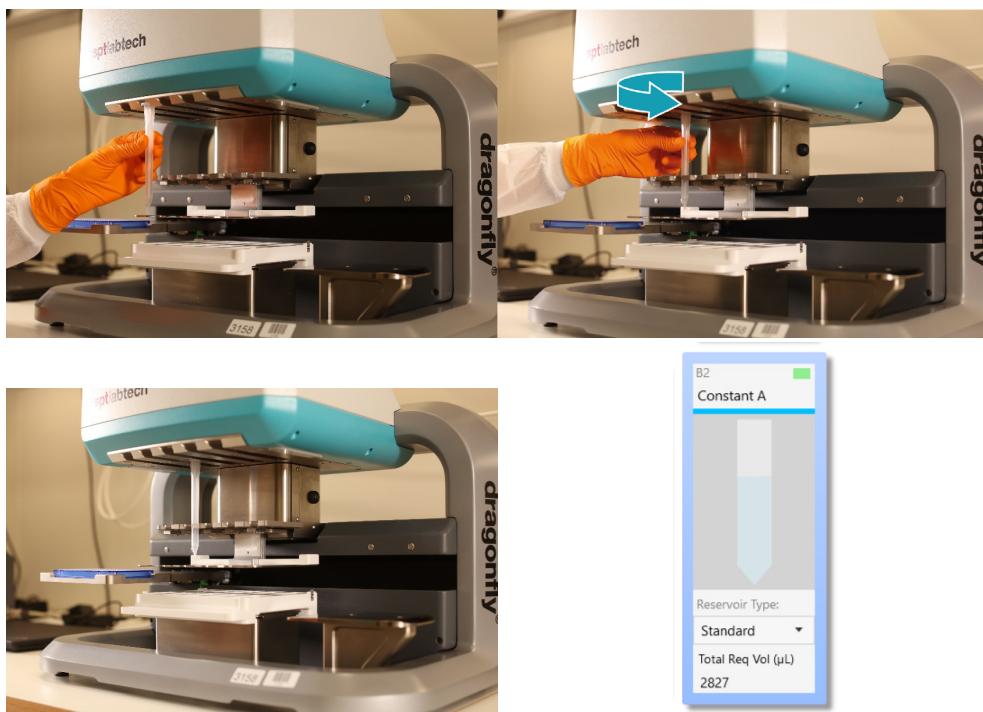

Figure 11. Insertion of disposable syringe
8. Attach the disposable syringe including plunger to the applicable track of the syringe plate (*Figure 11*) and slide it in until it reaches the applicable groove. Rotate the syringe 90 degrees counterclockwise until it clicks into place.